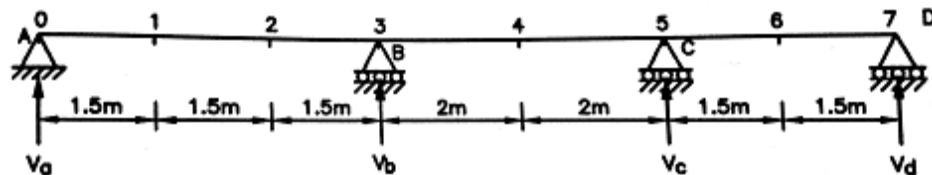

Fig.2A
- (A) Explain Castigliano's second theorem in detail (06)
- (B) Construct the influence lines for, V_a, V_b, V_c, V_d, M_1 and V_2 for a three span continuous beam shown in figure 2A below. (08)